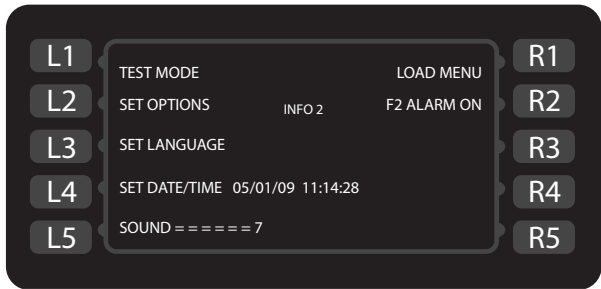
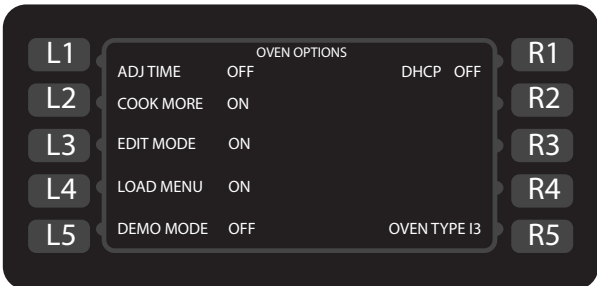
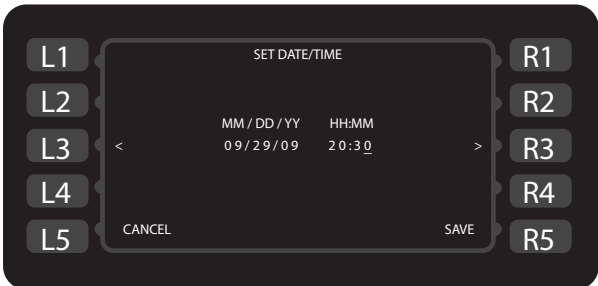

Figure 16: Info Mode Screen 2
Figure 19: Options Screen
Figure 20: Set Date/Time
From screen 2 of the Info Mode (Figure 16):
From screen 2 of the INFO MODE (Figure 16, page 13), press the L2 soft key to access the Options screen (Figure 19). When prompted, enter the password 9 4 2 8 and press the Enter key.
From screen 2 of the INFO MODE (Figure 16, page 13), press the L3 soft key to set a different language.
From screen 2 of the INFO MODE (Figure 16, page 13), press the L4 soft key to access the “Set Date/Time” screen (Figure 20).
From screen 2 of the INFO MODE (Figure 16, page 13), press the L5 soft key to adjust the beeper volume.
To turn the F2 alarm on or off, press the R2 soft key from the Info 2 screen (Figure 16, page 13).
From screen 2 of the INFO MODE (Figure 16, page 13), press the R1 soft key to access the Load Menu screen.
NOTE: This feature can be turned on or off via the “Options” screen (Figure 19, page 14).
6. Verify the oven type is set to “i3” (Figure 19).
From screen 2 of the INFO MODE (Figure 16, page 13), press the L1 soft key to access TEST MODE (Figure 22). When prompted, enter the password 9 4 2 8 and press the Enter key. From TEST MODE, the oven's components can be tested independently, or a comprehensive/selective self-test can be run. Unless otherwise specified, idle airflow is set to 10% and the stirrer motor is turned on.